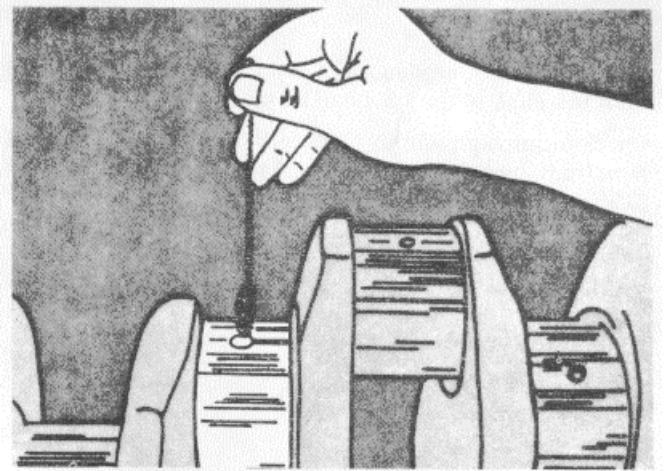

Figure 16C-13. Clean the Oil Drillings in the Crankshaft
1. Clean all drilled oil passages in the crankshaft with a bristle-brush, Figure 16C-13.